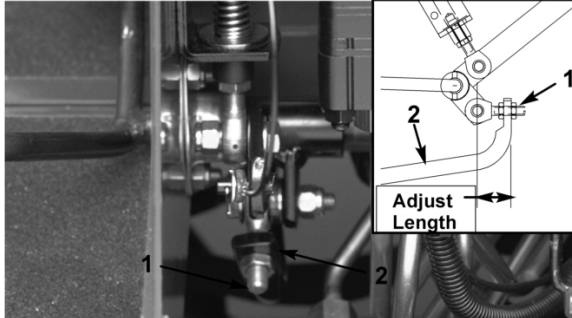

Figure 46
4. Adjust jam nuts on pump rod end to move pump control tube forward to eliminate forward creep or rearward to eliminate rearward creep (Figure 46).